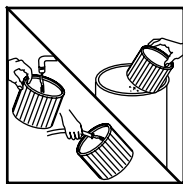

FIGURE 26, 27
37. To clean the cartridge filter shake or brush off excess dirt or rinse (from the inside of the filter) with water, dry completely (approximately 24 hours) and re-install. **FIGURE 26, 27. Note:** If the filter has been used for wet pick up, it must be cleaned and dried before using for dry pickup.